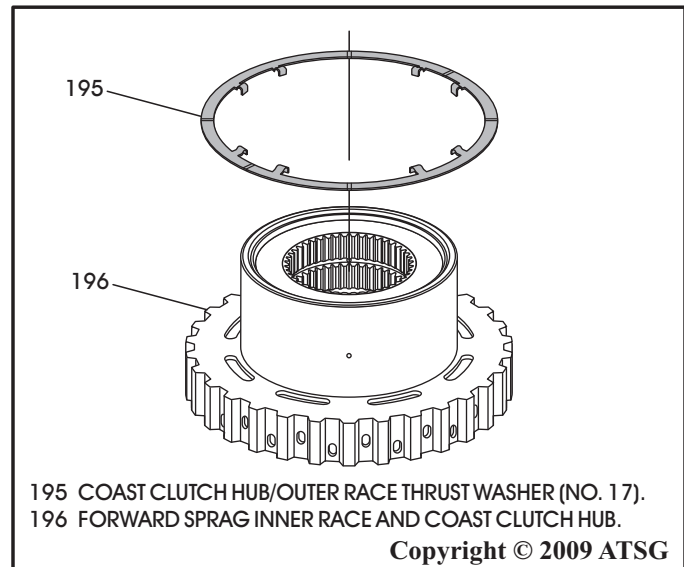

Figure 158
11. Install the number 17 thrust washer onto the inner race, as shown in Figure 158.